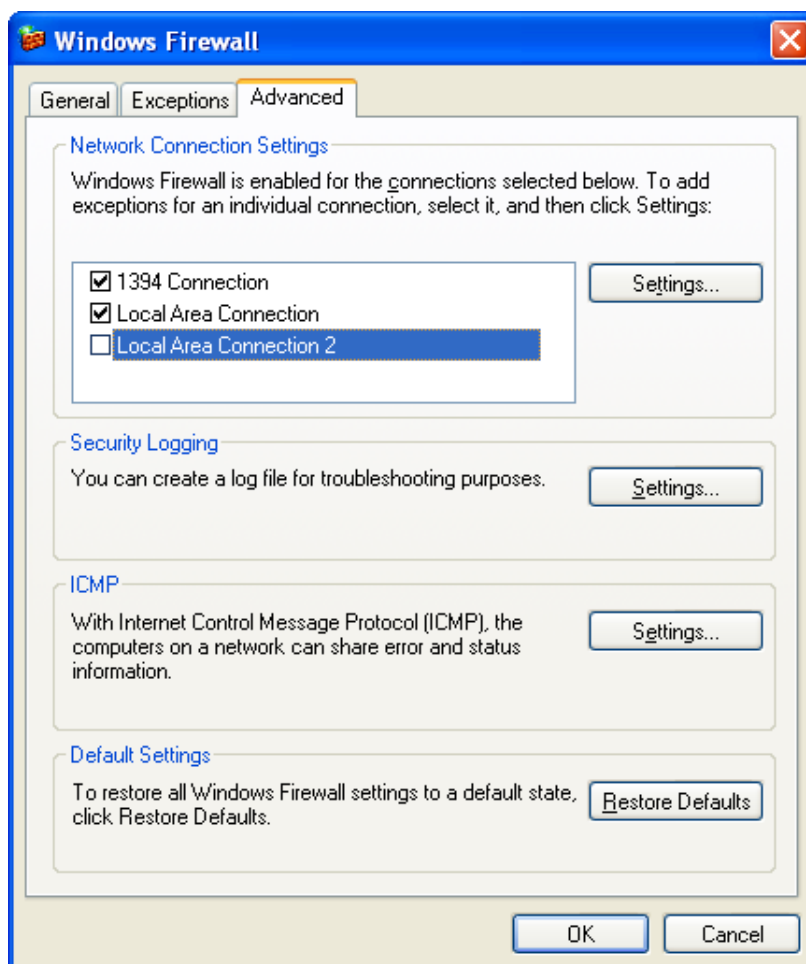

Figure 3.7: Windows Firewall Configuration
4. No firewall should be active on the network adapter where the Photonfocus GigE camera is connected. If the Windows Firewall is used then it can be switched off like this: Open the Windows Firewall configuration (Start -> Control Panel -> Network and Internet Connections -> Windows Firewall) and click on the Advanced tab. Uncheck the network where your camera is connected in the Network Connection Settings (see Fig. 3.7).